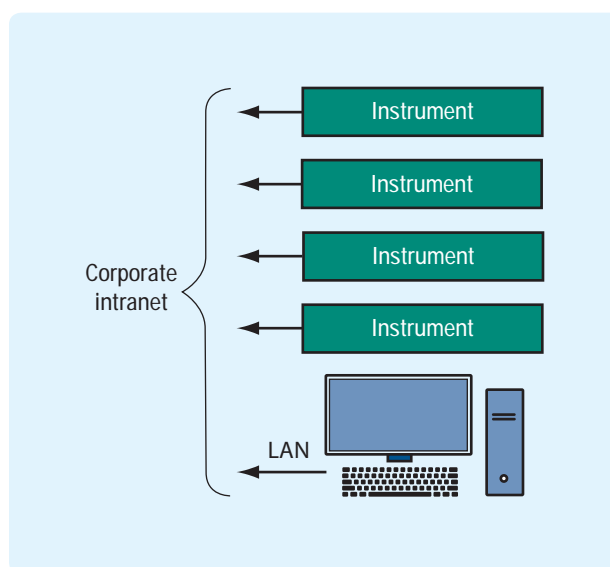

Figure 4. Direct connection to the internal network.
You can also connect LXI instruments directly to your corporate intranet since everything is Ethernet compatible (Figure 4). Once connected to the intranet, many users in the company have access to the instrument. The challenge is to work with your organization's information technology department (IT) to allow only authorized personnel to use them. The most common method is to place the instruments on a server protected by a password. Instruments connected inside the corporate firewall are protected fairly well from external users and harmful viruses.